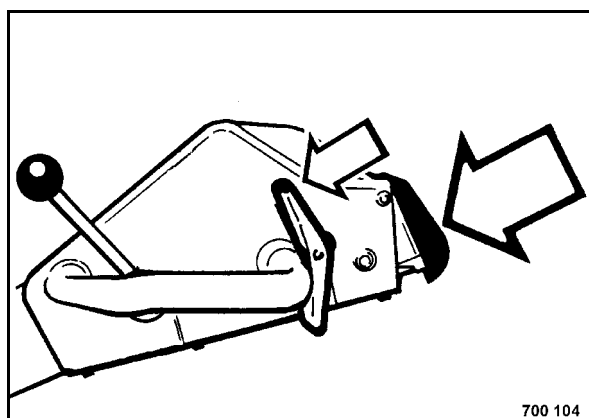

Fig. 36
- When actuating the reversing protection (Fig. 36), the travel lever (tip switch) switches over from backwards to forward travel.